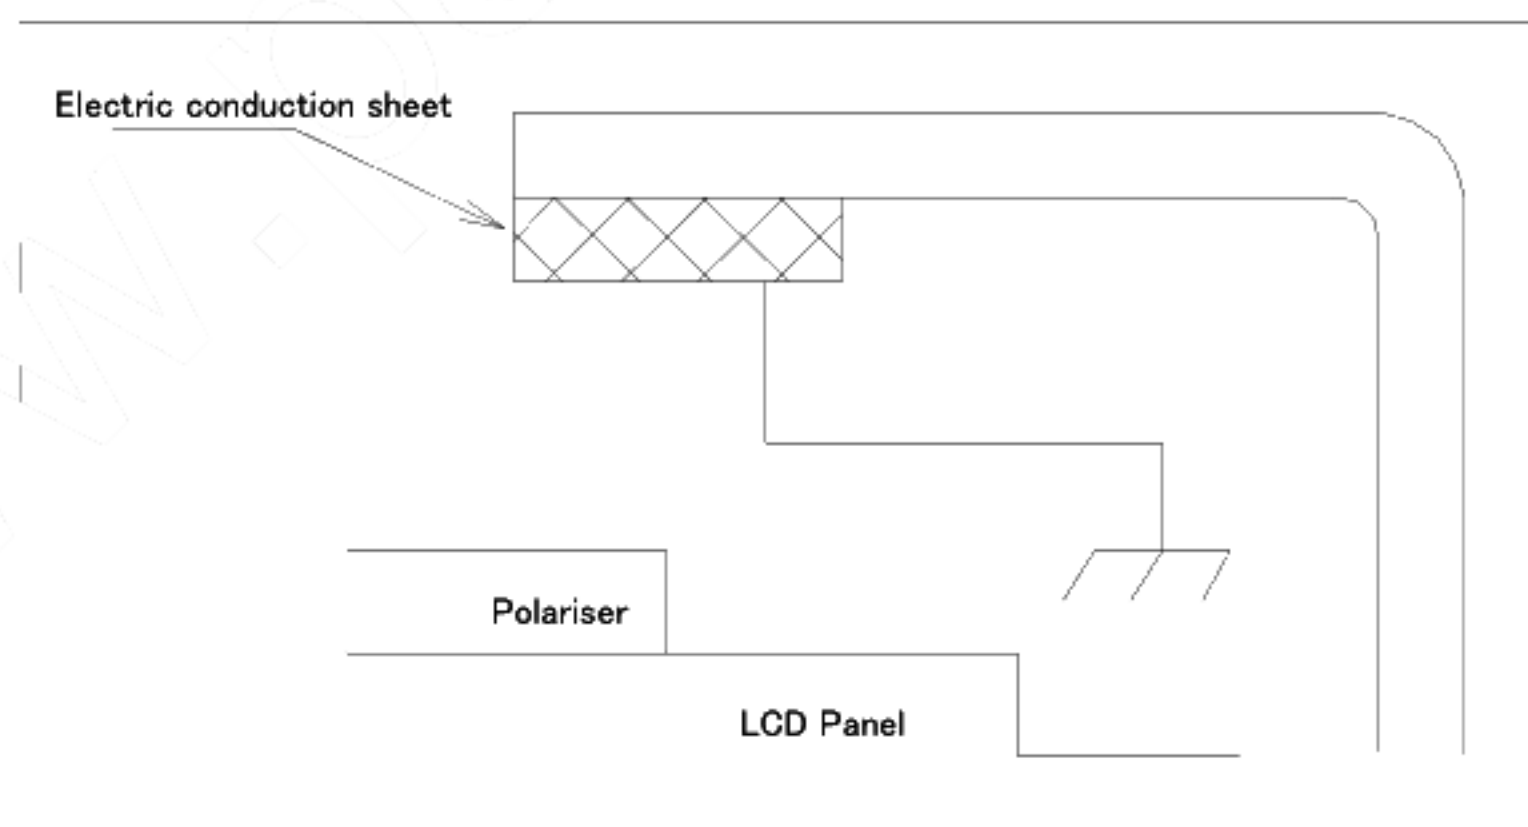

Figure 15-1 Design example
(1) When adhering the module to a device, contact with the driver or conductive part of the substrate can cause electrical In leakage.
(2) When attaching, please fix such that it is on the same level and make sure there is no stress such as warping or twisting on the module. When pressing the LCD surface after embedding, please take care that excess mechanical stress is not applied to the LC module.
(3) In a set design that has no protective sheet in the panel front part for reducing surface reflection, when static electricity is applied to the panel peripheral part, there is the risk of electrostatic damage of the module so please design such that it is surrounded by the set cabinet up to the peripheral part of the polarizer and such that a conductive sheet or the like grounded to the rear side thereof is adhered to absorb static electricity. (Refer to Figure 15-1)